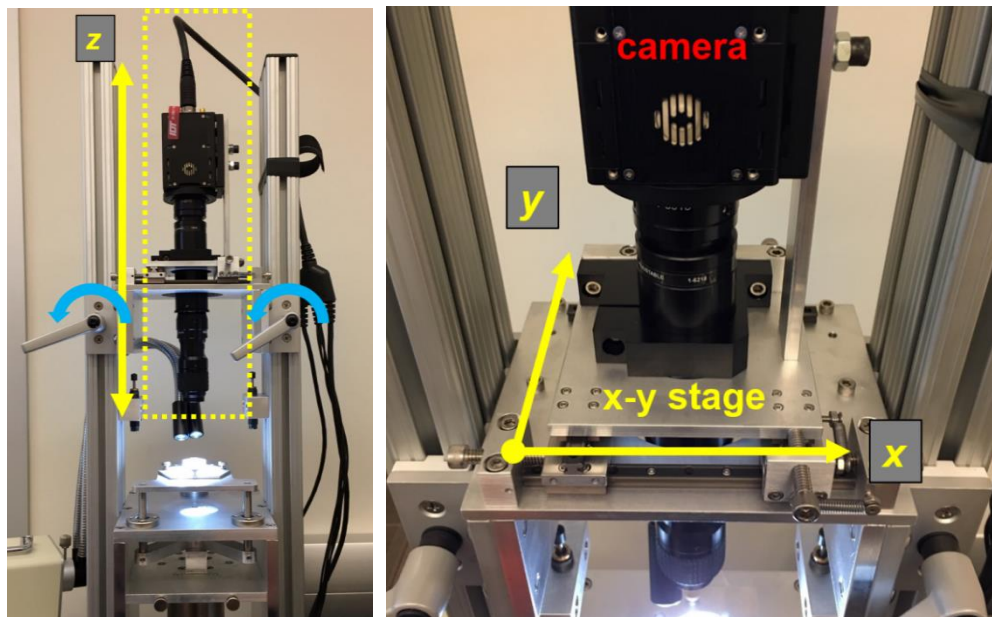

Fig. 28: Adjusting the camera position in all three axes.
- 1) The vertical z-position can be adjusted by loosening the two knobs following a counter-clockwise motion (cyan in **Fig. 28**), moving the camera platform up or down, and re-tightening the knobs (applying a clockwise motion). The camera is held in place by an x-y stage which can be used to adjust the camera's position.